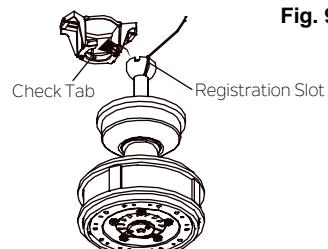

Fig. 10
**Step 6.** Now lift the motor body into position and place the hanger ball into the hanger bracket. Rotate until the "Check Tab" has dropped into the "Registration Slot" and seats firmly. (Fig.10) The entire motor body should not rotate if this is done correctly.